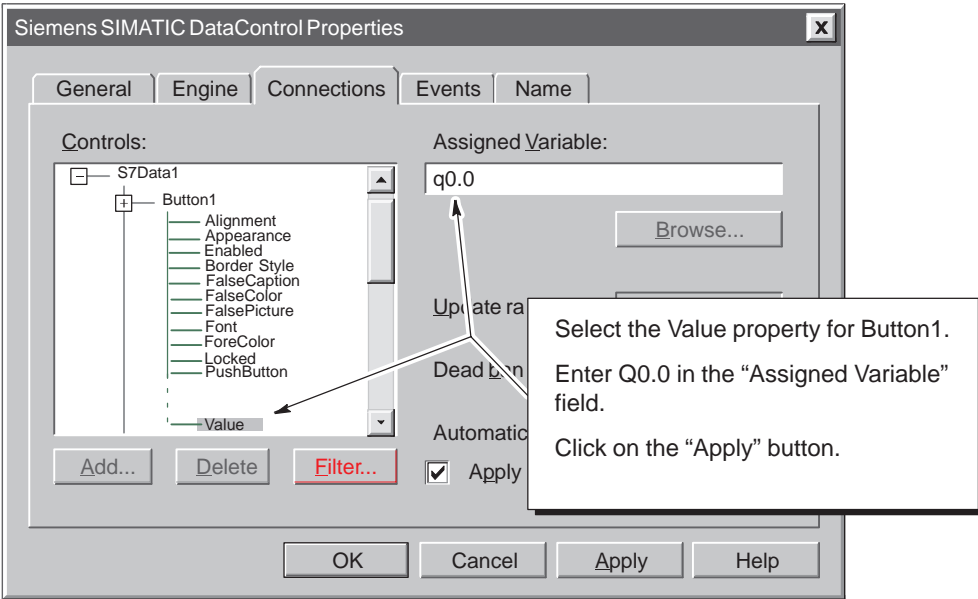

Figure 3-18 Assigning the Variable for Button1
4. With the Value property for Button0.0n1 selected, enter **Q0.0** in the “Assigned Variable” field See Figure 3-18.